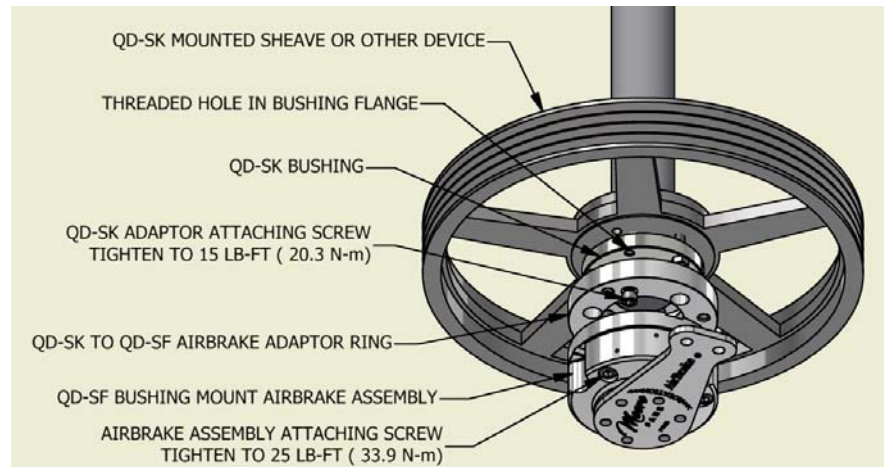

Figure 2. QD-SK TO QD-SF AIRBRAKE INSTALLATION
STEP 2: Refer to **Figure 2**.